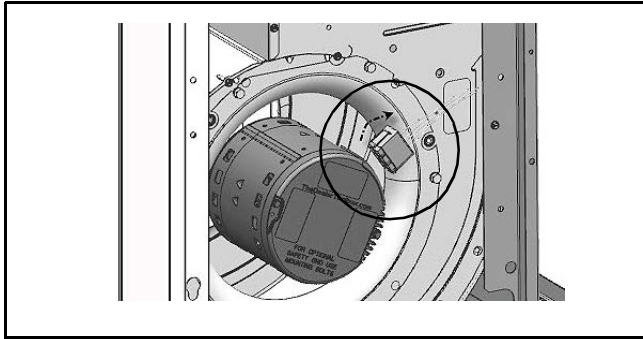

Fig. 25
2. Disconnect blower motor wiring and ground wire fastened to blower housing. (See Fig. 25.)